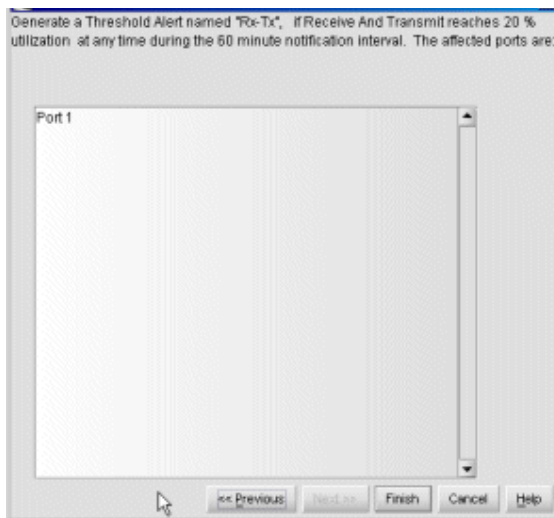

Figure 35: New Threshold Alerts dialog box—summary screen
11. Click **Next**. A final screen displays to provide a summary of your alert configuration, as shown in Figure 35.